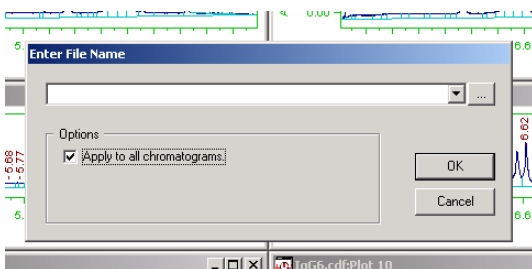

Figure A-39: Apply to All Chromatograms Check Box
2. In the file name inquiry window (Figure A-39) ensure that the box of **Apply to all chromatograms** is checked.